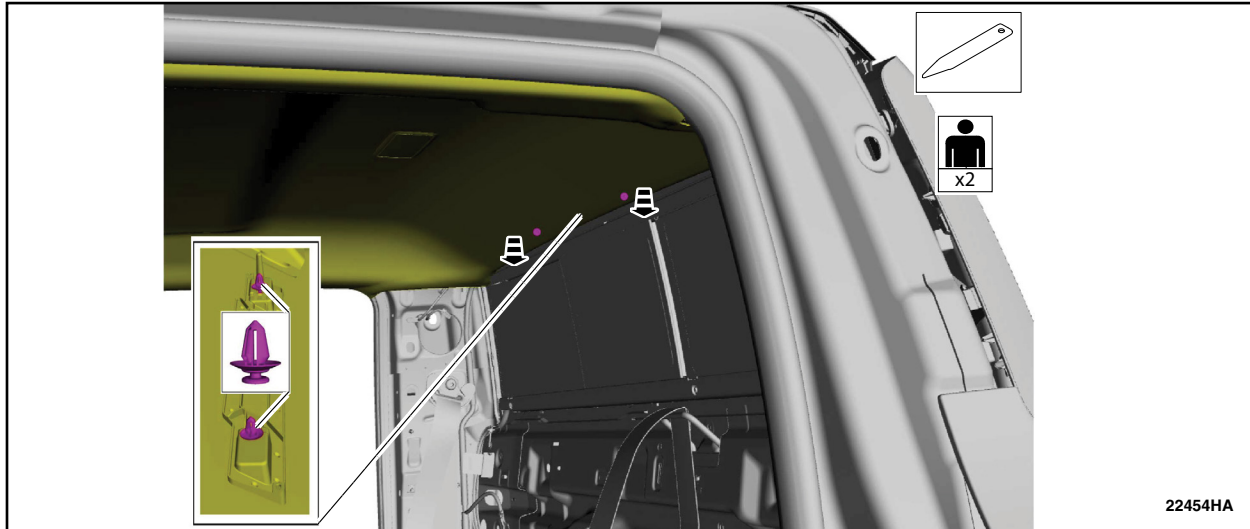

FIGURE 16
19. Release the headliner rear clips. See Figure 16.